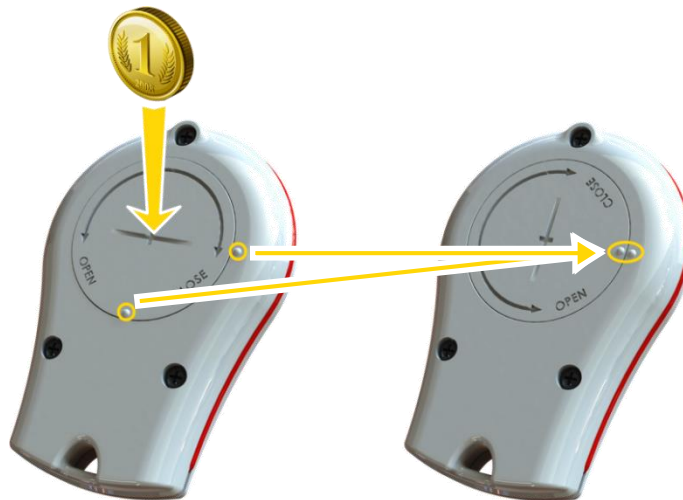

Figure 53: Releasing the Remote Control Unit's Battery Cover
2. Release the cover of the KF battery compartment by inserting a coin into the slot and turning the cover a quarter of a circle (90°) counter-clockwise until the two small bumps align (facing each other) as presented in Figure 53 below: